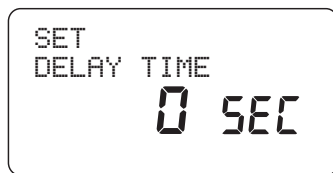

Figure 22: Display – Station Delay
1. Turn the rotary dial to **•STATION DELAY** [See Figure 22]